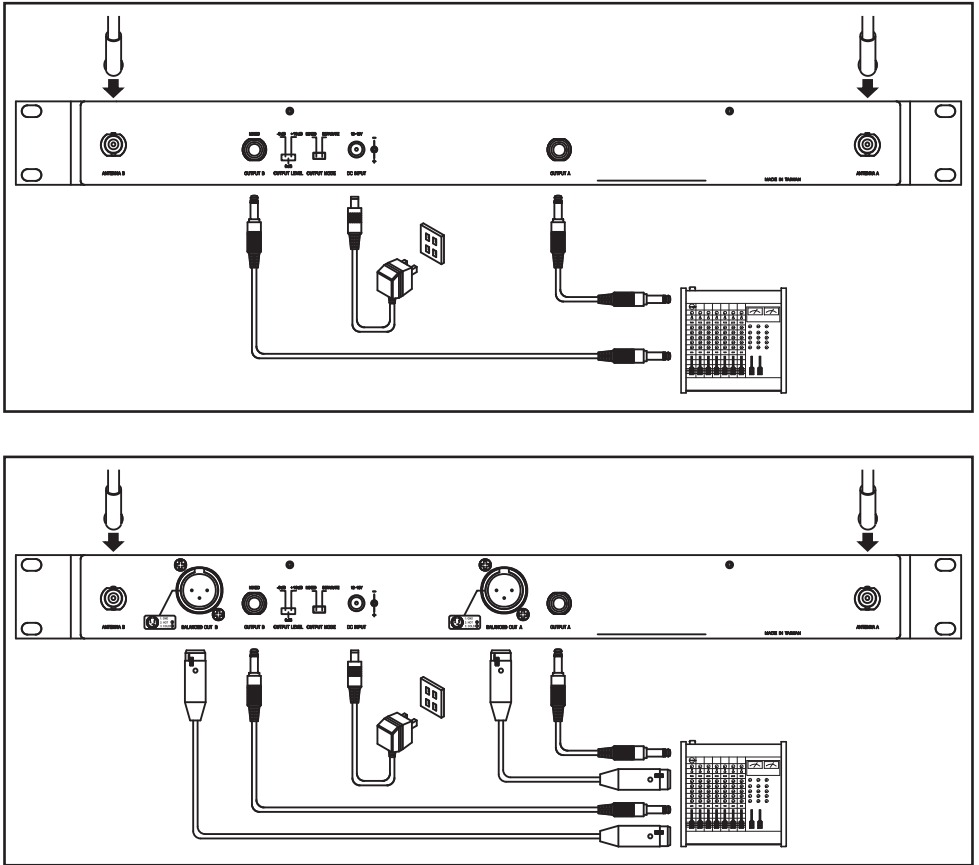

Fig. 2
1. Install two detachable antennas to Antenna Input Connectors ⑧, Fig. 2.
2. Plug DC plug into the DC Input Jack ⑫ and the power cord, into a power outlet, Fig. 2.